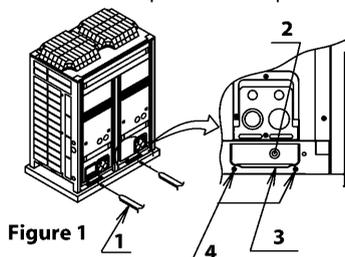

Figure 1
3. If a forklift is to be use, pass the forklift arms through the large openings on the bottom of the unit. (Refer to Figure 1)
(Refer to Figure 1)